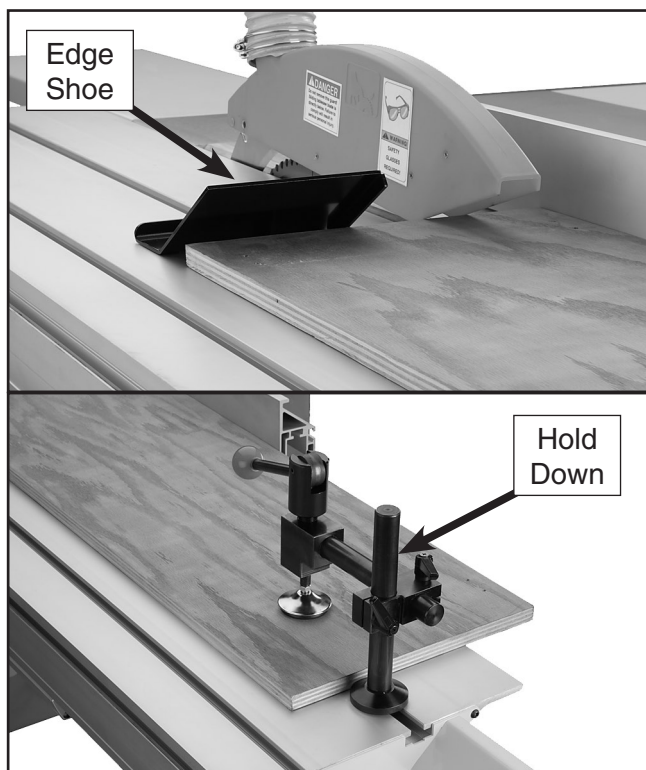

Figure 43. Edge shoe and hold down placement.
- Slide the edge shoe into the table as shown in **Figure 43** when needed.
- Slide the hold down onto the table when needed and lock it in place as shown in **Figure 43**.